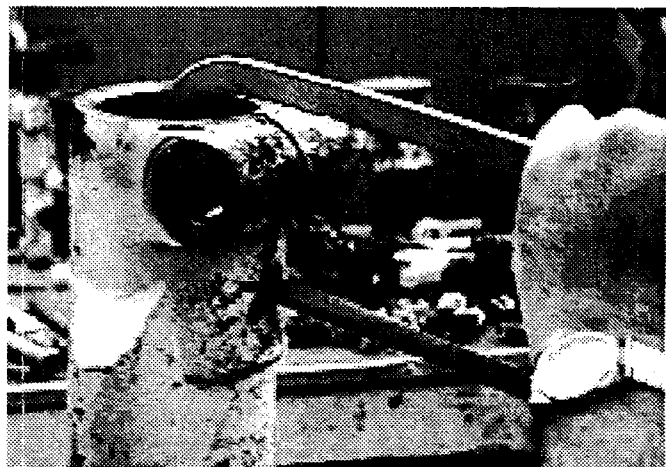

Figure 2.
1. Using a hacksaw, place the saw into the slot in the fronthead end of the housing (1). Cut the retaining ring (27). Rotate the retainer with a screwdriver and saw the retainer again. Remove the retainer. Refer to Figure 2.